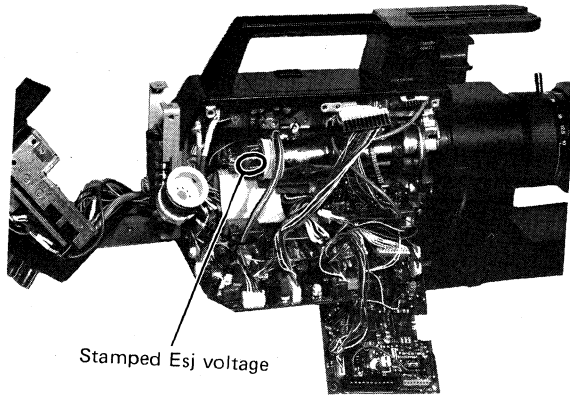

Fig. 4-2-9
2. The value of optimum target voltage E_{sj} is stamped on the pick-up tube neck. (Fig. 4-2-9)